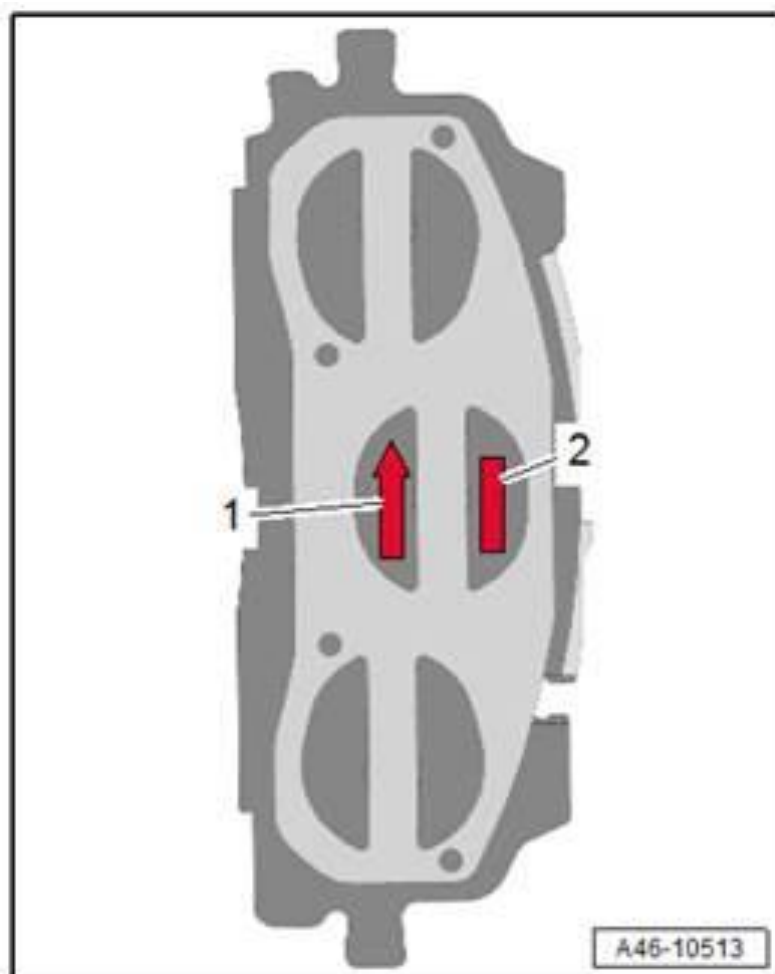

Figure 5. Correct installation positioning for the brake pad.
5. It is mandatory to pay attention to the labeling on the brake pad (Figure 5). In installed position the arrow (1) on the backing plate must point upward (the pads should be installed with the arrows following the forward rotation of the wheel). Labeling (2) indicate correct assembly position (left outer/inner, right outer/inner).